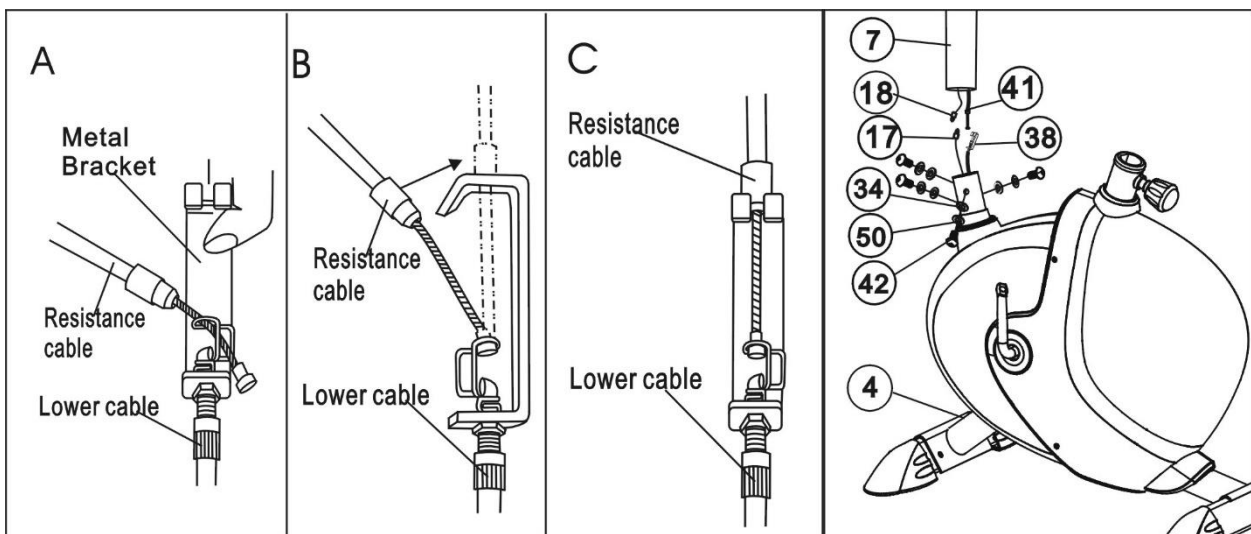

Figure 3
- a. Put the cable end of resistance cable of Tension control (41) into the spring hook of Tension control wire (38) as shown on drawing **A** of figure 3.
- b. Pull the resistance cable of Tension control (41) up and force it into the gap of metal bracket of Tension control wire (38) as shown on drawing **B** of figure 3.
- c. Connect the resistance cable of Tension control (41) with the Tension control wire (38) completed as shown on drawing **C** of figure 3.
- d. Insert the Computer wire (17&18) through into the bottom of Handlebar support (7) and pull it out from the top hole of Handlebar support (7).
- e. Insert the Handlebar support (7) to the Main frame (4) and secure it with four M8x16 Bolts (42), Φ 8 Spring washer (50) and Arc washers (34). (Refer figure 3)